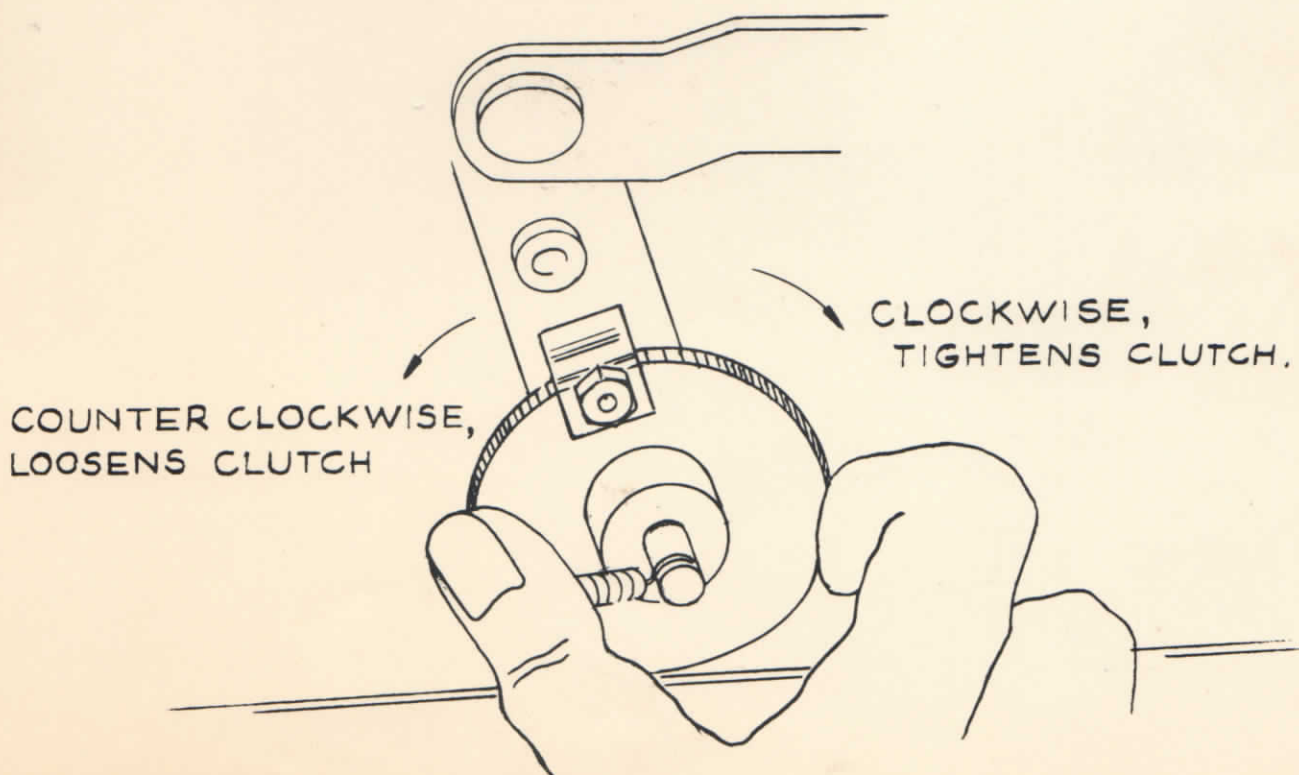

Figure 27
4. Turn knurled adjustment wheel clockwise slowly until compressor starts operating, now reverse the rotation of the wheel in a counter clockwise direction very slowly and carefully until compressor stops. It is exactly at this point that the clutch is in proper adjustment. (Figure 27)